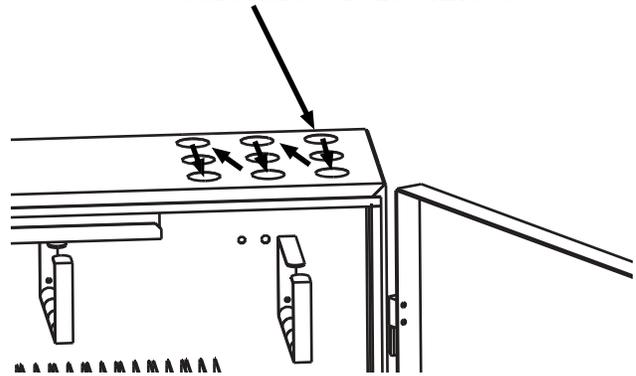

Figure 8
7.1 Remove required knockouts. Start at rear corner and work to front then center (Figure 8).